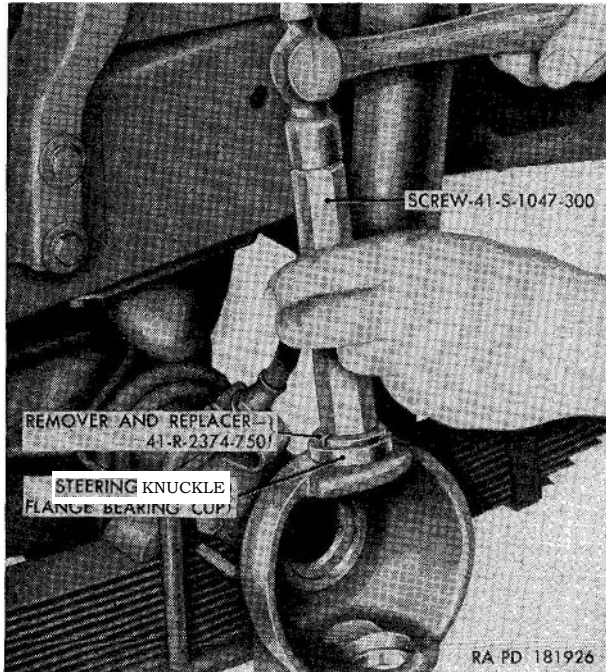

Figure 143. Installing steering knuckle flange bearing cup into front axle housing, using remover and replacer 41-11-2374-750 and screw 41-2-1047-300.
- (1) Position one steering knuckle flange bearing cup with the small inside diameter of the cup in the axle housing. Place the remover and replacer 41-R-2374-750 (fig. 143) in the cup. Install the screw 41-S-1047-300 (fig. 143) in the remover and replacer and drive the cup into the housing until the outer edge of the cup is flush with the housing. Remove the screw and the remover and replacer. Install the other cup in the same manner.